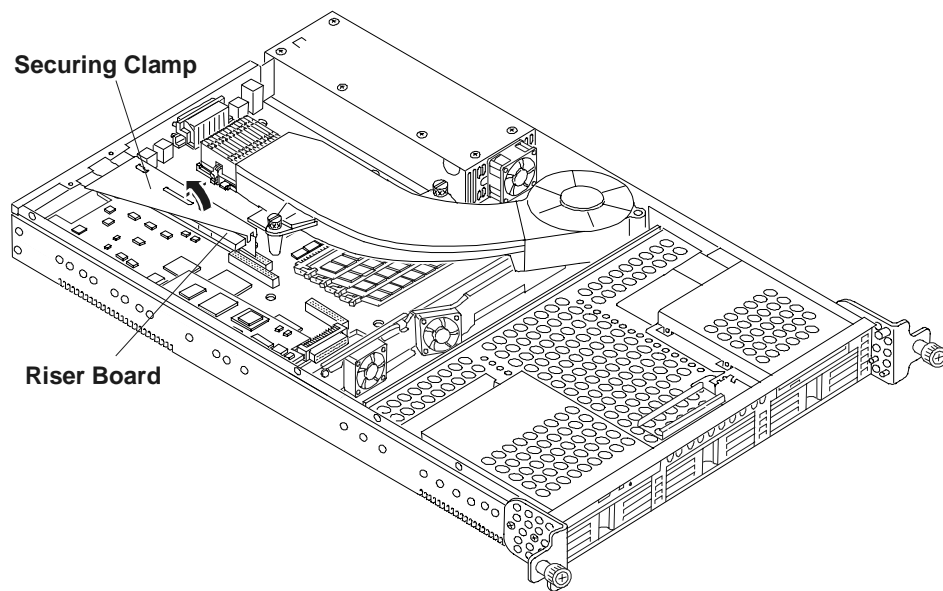

Figure 5-3. Riser Board and Securing Clamp
7. Lift and rotate the securing clamp up to about a 45° angle. See Figure 5-3.